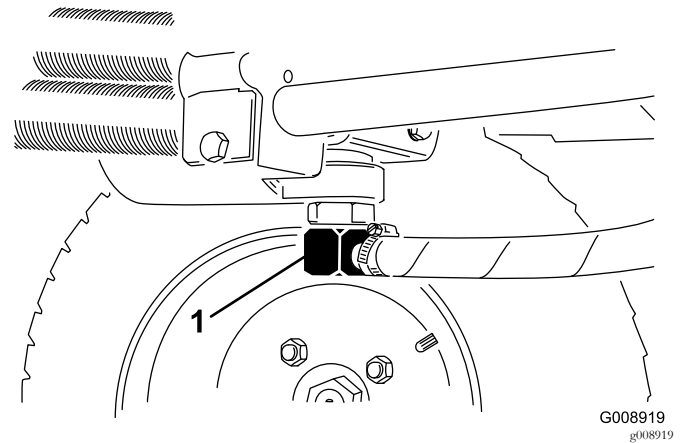
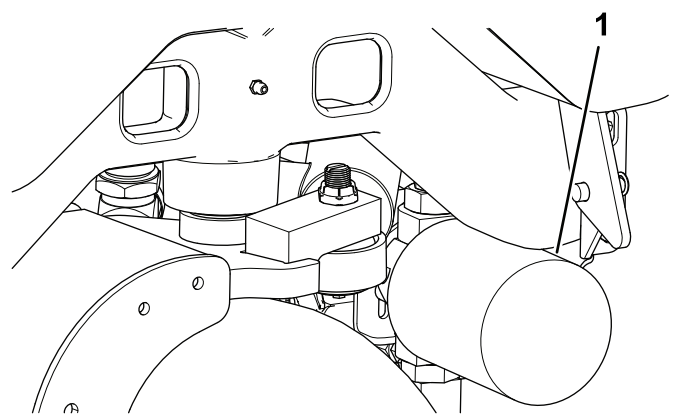

Figure 74
Figure 75
2. Disconnect the hydraulic line (Figure 74) or remove the hydraulic filter (Figure 75) and let the hydraulic fluid flow into a drain pan.
4. Place a drain pan under the filter (Figure 75) and remove the filter.